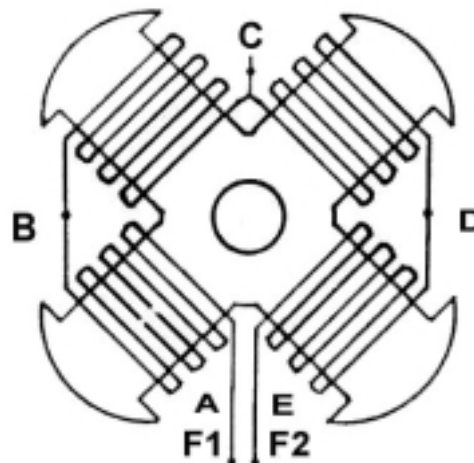

Figure 8-1
See figure 8-1 for measurement points and expected meter range settings. When in doubt, start with a higher range and work down. Consult meter instruction manual to verify its operation and limitations.
Step 3: Measure and record voltages pole. Between points "A" and "C", "C" and "D", "D" and "E" across each "B", "B" and (Figure 8-1).